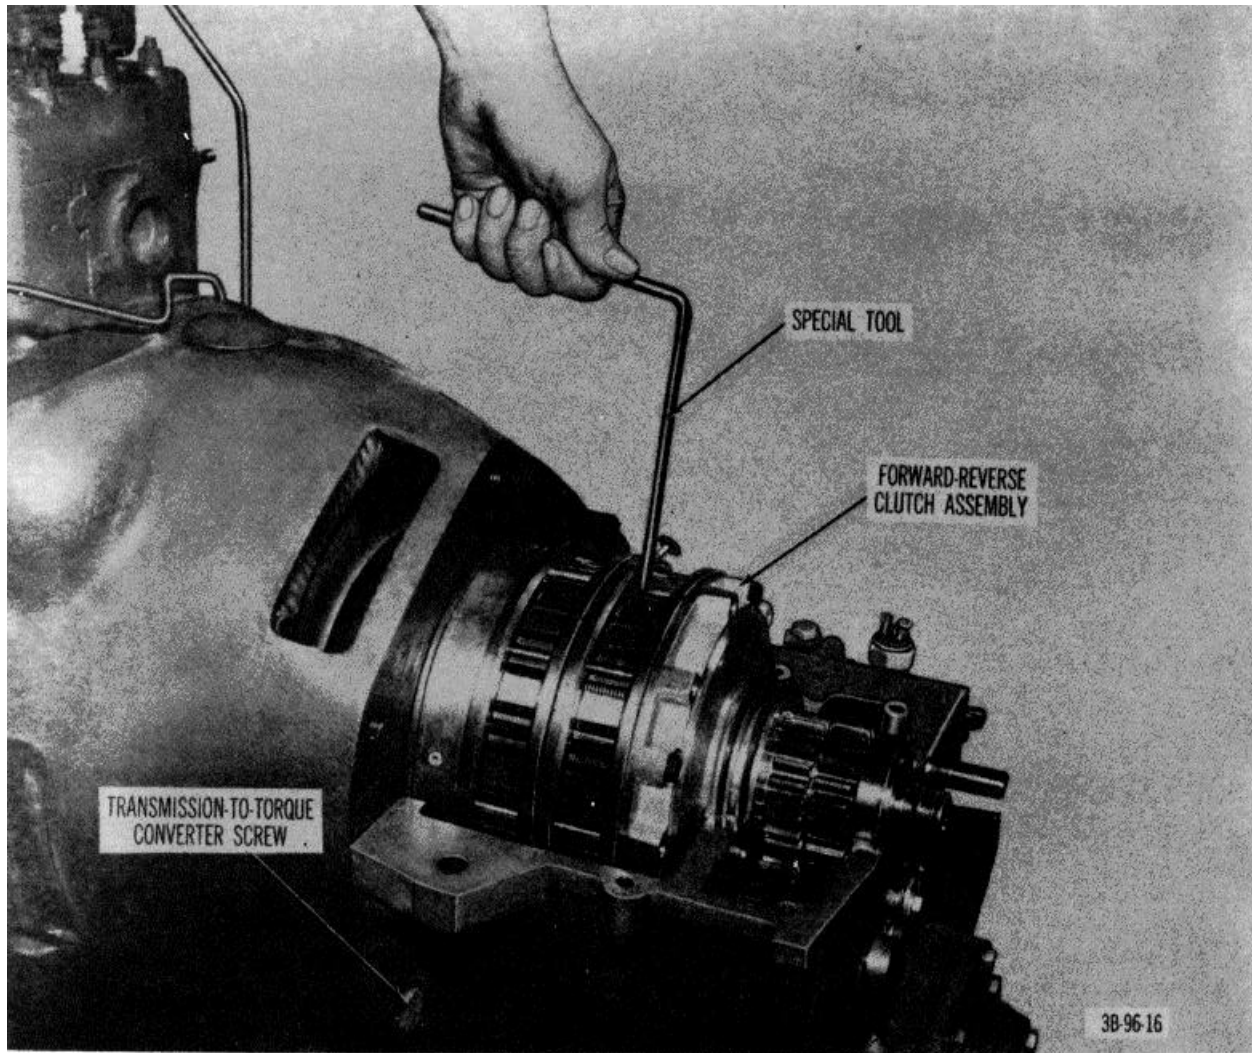

Figure 28. Removing forward-and-reverse clutch pack.
- (14) Fabricate a special tool (fig. 28) from 5/16-inch round stock, lift the forward-and-reverse clutch pack up and to the front, and remove the pack from the transmission.